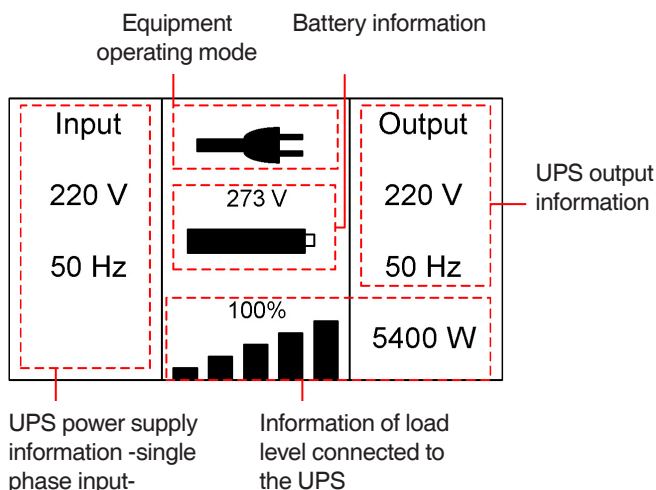
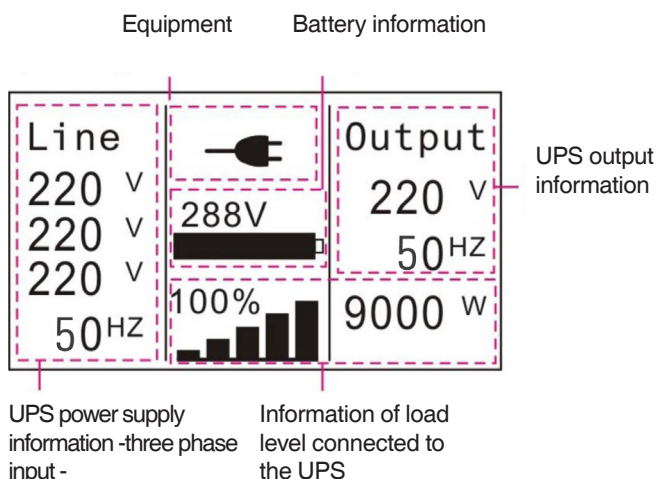

Fig. 17. Main screen of the equipment with single phase input.
Fig. 18. Main screen of the equipment with three phase input.
- Immediately after the start up, the LCD panel shows the SALICRU logo for few seconds and next the main screen by default is displayed, where the status of the equipment is represented (figures 17 and 18).
- All the screens shown in the figures of this chapter correspond to an equipment with three phase input. Only figure 17 shows the main screen of single phase input equipment, in order to compare it with figure 18, which is for a three phase equipment. A part from the difference as regards to battery voltage, power that belong to the model, the values phase to neutral or phase to phase and neutral can be appreciated.